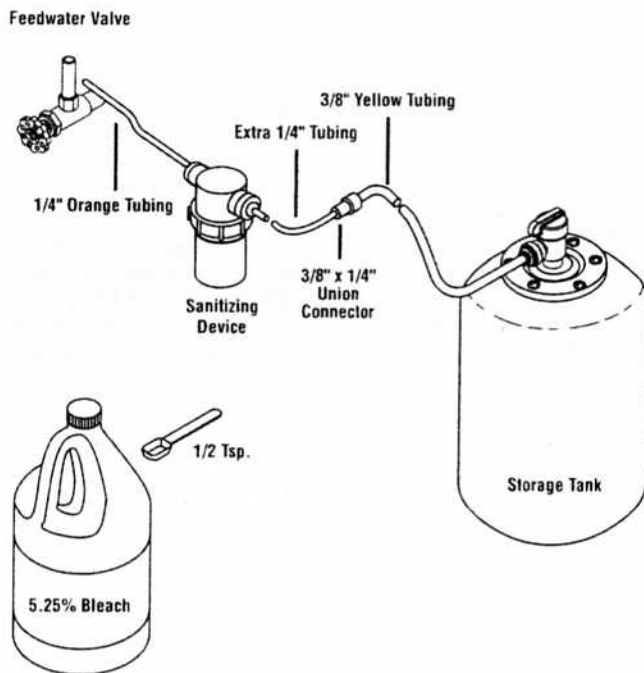

Figure 8
- 3) Make sure that the feedwater tapping valve is completely closed and disconnect the 1/4" orange feedwater tubing from the purification assembly. Connect the end of the feedwater tubing to the sanitizing device. Connect an extra length of 1/4" tubing to the other end of the sanitizing device. Using the 3/8" x 1/4" union connector, connect the 3/8" yellow tubing from the tank valve fitting to the extra piece of 1/4" tubing. (See Fig. 8)
- 5) Open the feedwater valve to force water and sanitizer into the storage tank. Allow about three (3) minutes to fill a standard 2.5 gallon (9.5 liter) tank. It should feel heavy when it is full.
- 6) The sanitizing agent should remain in the storage tank a minimum of fifteen (15) minutes. Close the feedwater valve and the storage tank valve. Disconnect the sanitizing device from the storage tank and feedwater valve. Reinstall the storage tank and reconnect the 1/4" orange feedwater tubing and the 3/8" yellow tubing.
- 8) Shut off the faucet and allow the storage tank to fill for at least six (6) hours. Drain the storage tank again and discard the water. The appliance should be ready to use as soon as the tank refills. If any objectionable taste is noticed, then drain the storage tank again and allow it to refill.